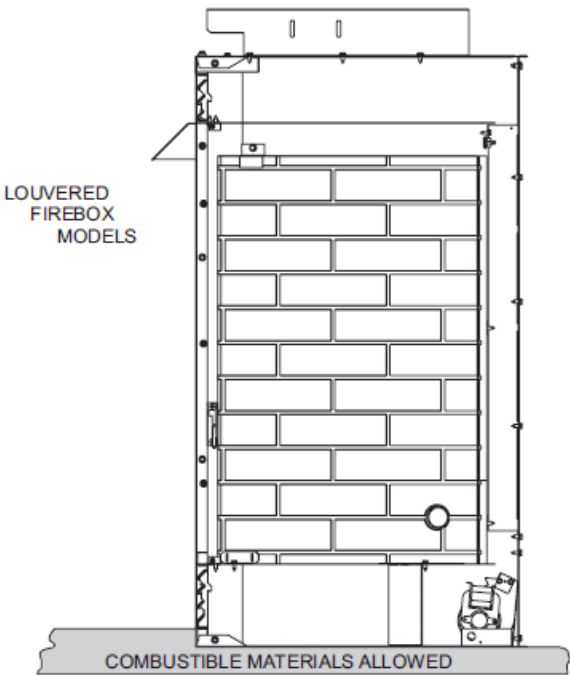

Figure 4
3. Recessed into the floor as illustrated by Figure 4.
4. Supported under all (4) corners of the firebox so that contact is made on all four perimeter edges on the bottom of the unit (Example: Four (4) concrete masonry blocks).